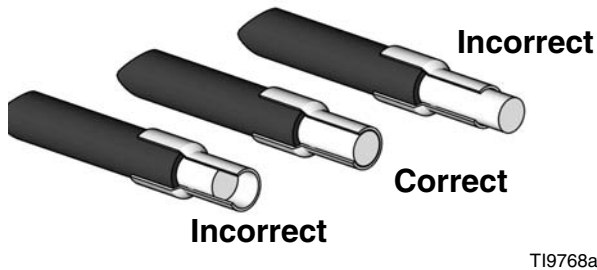

FIG. 7
- a. Ensure strip length is correct by fitting ferrule over exposed wire. Ferrule should be flush with wire end. See FIG. 7.
- b. If wire is short of ferrule end, adjust strip length accordingly. If bare wire is protruding from ferrule, trim flush to ferrule end. See FIG. 7.